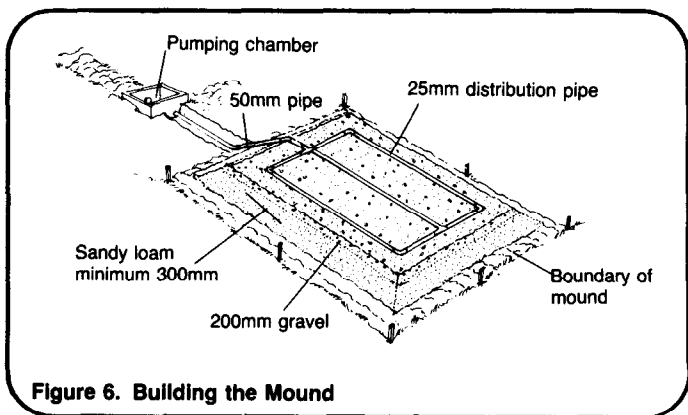

Figure 6. Building the Mound
3. Building the Mound. Begin building the mound with sandy loam or other fill material approved by the engineer. Do not tamp. The minimum height of this layer is 600mm and the top must be level. Cover the sandy loam with a 200mm layer of clean gravel. See Figure 6.